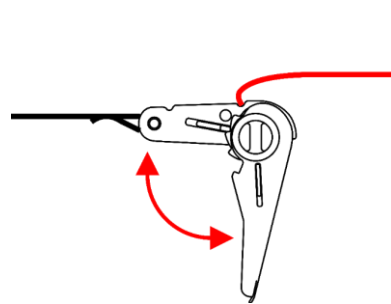

Fig. 08
- 04) Repeatedly open and close the **ratchets (03)** to tighten the **endless ratchet straps (04)** around the tree or the upright structure (Fig. 08). Make sure that the endless ratchet straps are not overloaded.